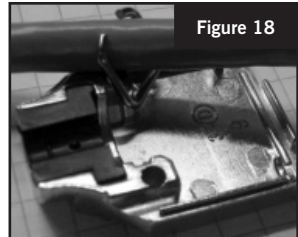

Figure 18
h. Insert wires into D-SUB slots in accordance with Table 1. Place the grounding ring on the cable just at the end of the jacket, fold the cable's shield over the grounding ring and strain relief, be sure that no shield will run past the end of the strain relief (note there are four set of strain relief to choose from; select the strain relief that is closest to the cable size). (See table 1 and figure 18)